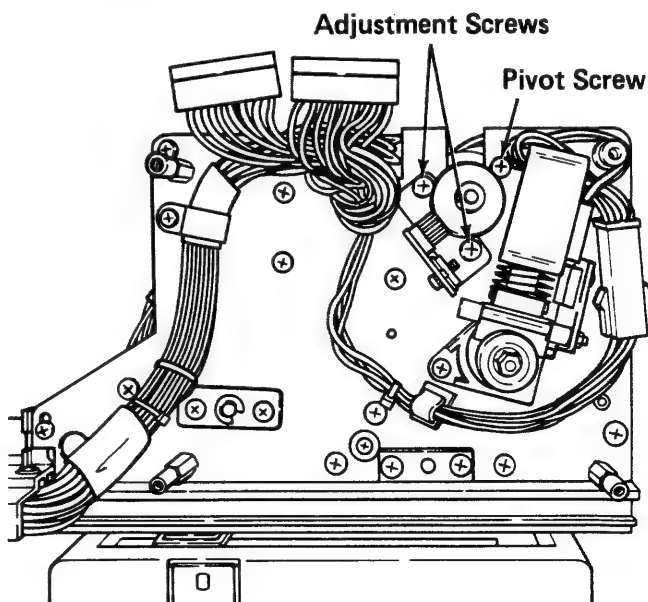

Figure 3-9.1A
6. Loosen the Pivot Screw and Adjustment Screws securing the Film Reverse Motor (Figure 3-9.1A).